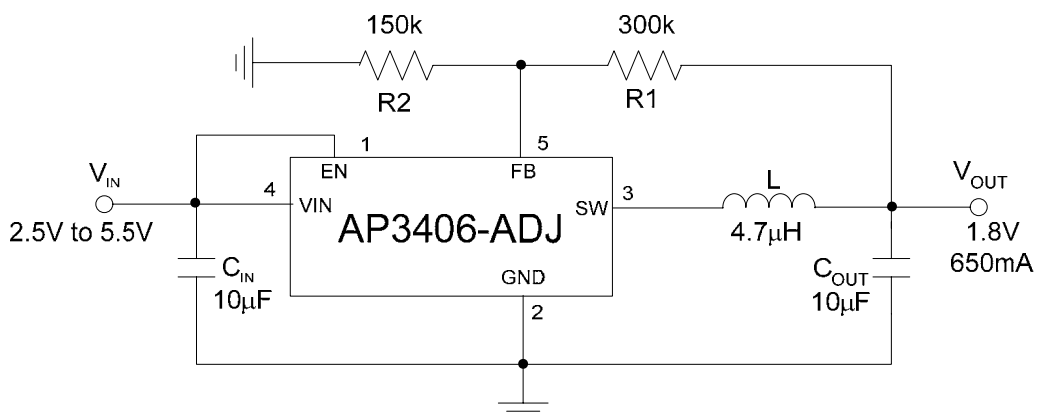

Figure 2. Typical Application of AP3406
is initiated by the clock signal again, turning off the N-channel synchronous switch and turning on the P-channel switch. (See Figure 2)
3. Component Select Guide (See Figure 2)